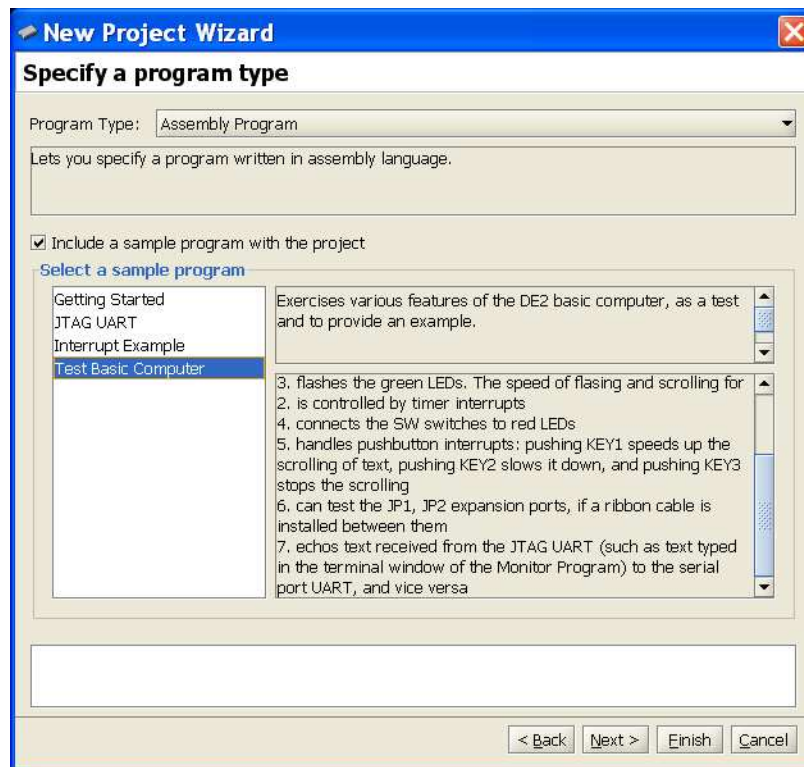
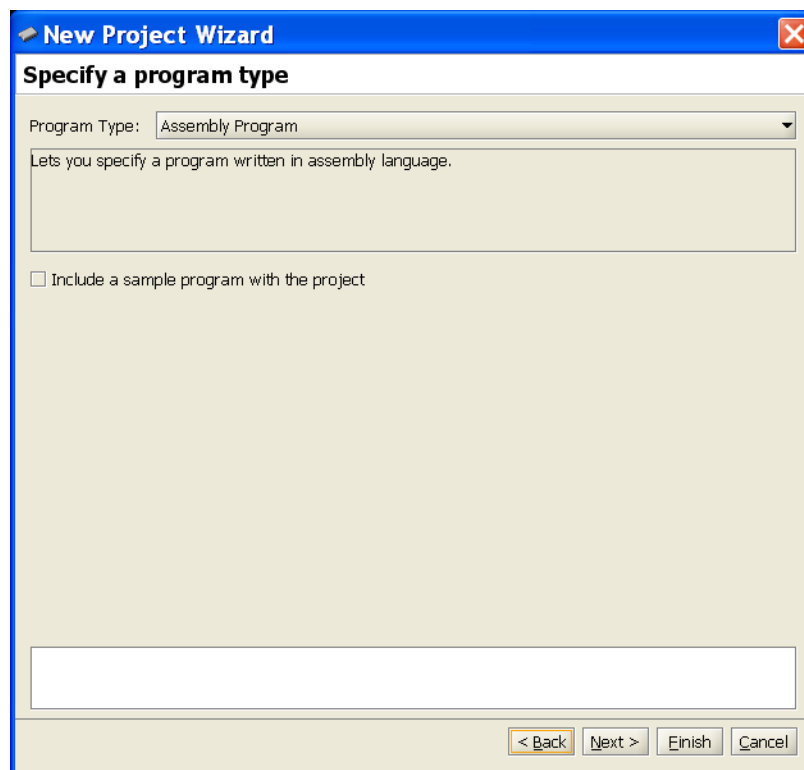

Figure 4. Selection of an application program.
Figure 11. Select the assembly language program.
4. In the window in Figure 4 you can specify the type of application programs that you wish to run. They can be written in either the Nios II assembly language or the C programming language. Specify that an assembly language program will be used. The Altera Monitor Program package contains several sample programs. Select the box **Include a sample program with the project**. Then, choose the **Test Basic Computer** program, as indicated in the figure, and click **Next**.
2. Use the Altera Monitor Program to create a new project in this directory; we have chosen the project name *part2*. When you reach the window in Figure 4 choose **Assembly Program** but do not select a sample program, as shown in Figure 11. Click **Next**.